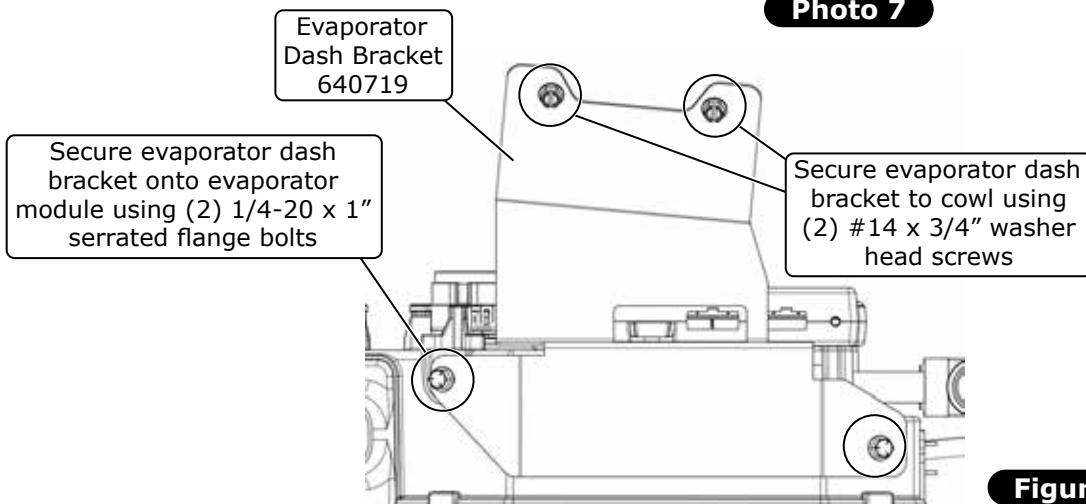

Figure 1
6. Install (2) 1/4-20 well nuts onto the evaporator module (See Photo 7, below).
7. Position the evaporator dash bracket under the glove box door mounting holes, then secure it onto the evaporator module using (2) 1/4-20 x 1" serrated flange bolts (See Figure 1, below).
8. Make sure that module is level front to back and side to side. Secure the evaporator dash bracket to the cowl using (2) #14 x 3/4" washer head screws (See Figure 1, below).
2. Install the center louver hose adapter in the center louver assembly (See Figure 1, below).
3. Install the center louver assembly in the dash using (3) OEM screws (See Figure 1, below).
1. Install the under dash center louver bezel using (2) #10 x 1/2" sheet metal screws as shown in Figure 1, below.
2. Install the louver in the under dash center louver bezel (See Figure 1, below).